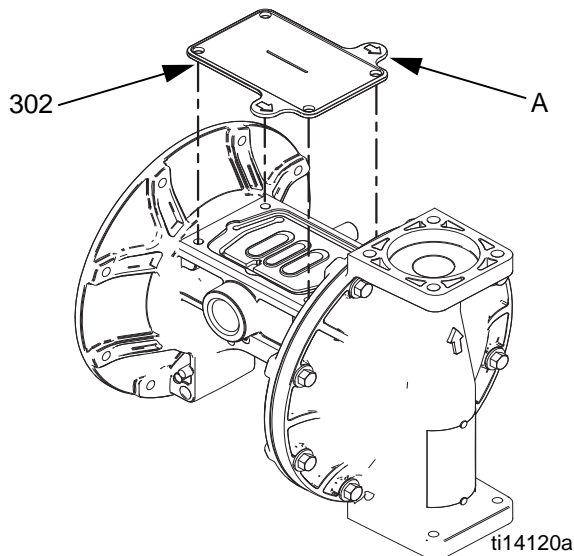

FIG. 9. Fluid cover tool
- c. Grease the shaft u-cups (106) and the length and ends of the diaphragm shaft (104). Slide the shaft into the housing.
- f. Reattach the first fluid cover (3). See **Torque Instructions**, page 16.
- a. See FIG. 9. Place the supplied tool (302) where the air valve gasket (108) normally goes. Arrows (A) must face toward the fluid cover that is already attached.